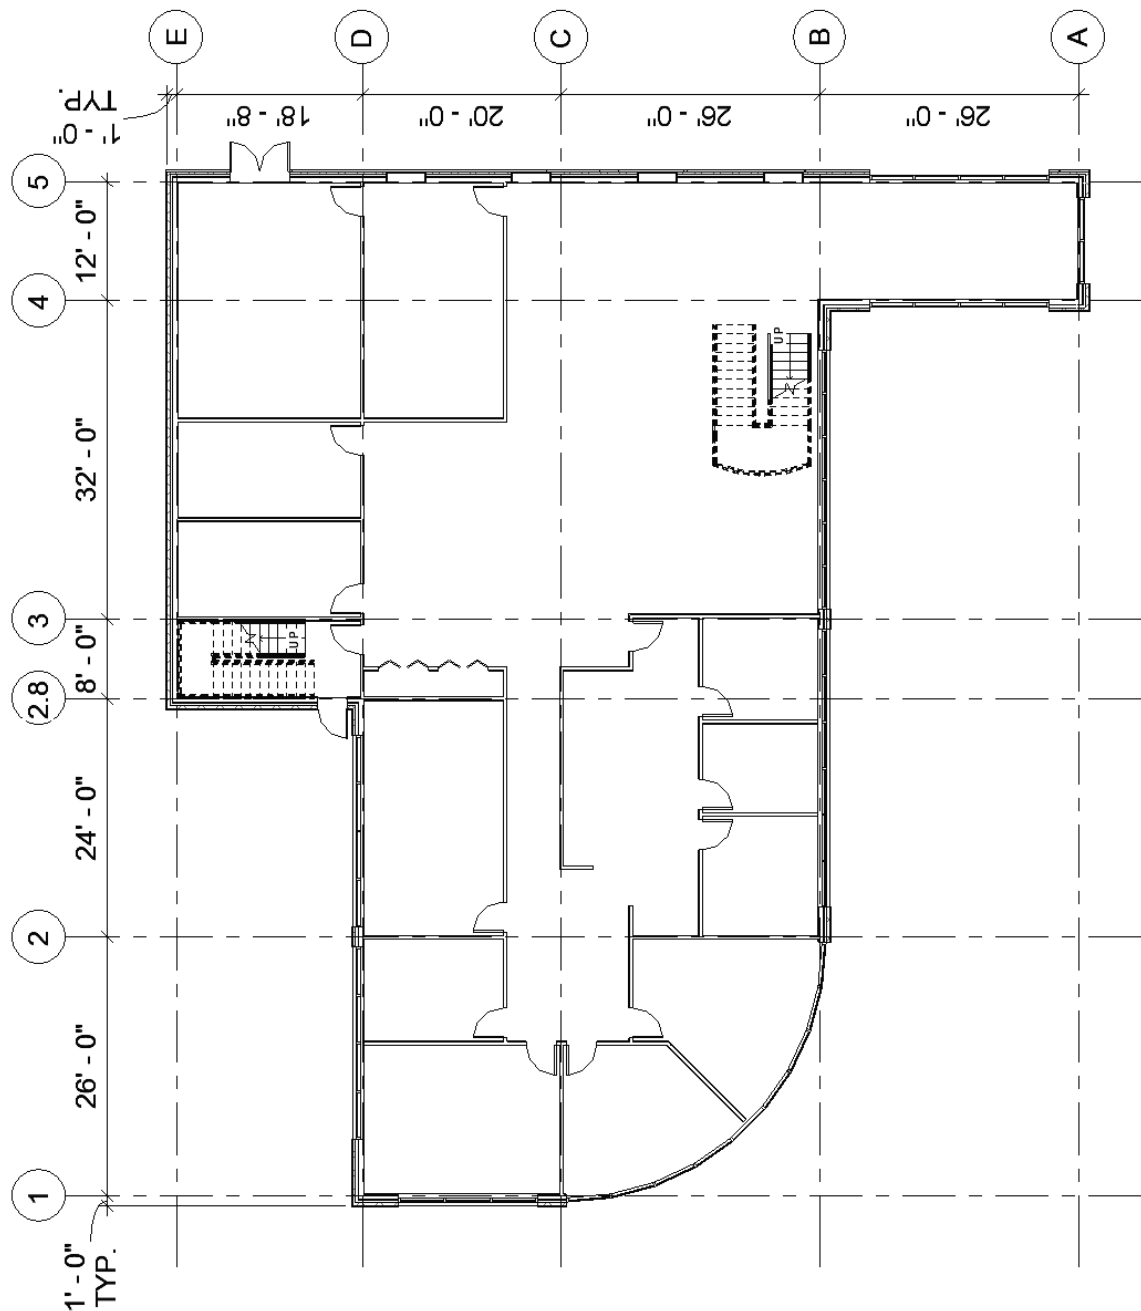

FIGURE 8-3.3
4. Layout the grid as shown in Figure 8-3.3.
- b. Use this as an opportunity to double-check the overall dimensions of your building. Many of the grids can be laid out based on the 1'-0" distance from the exterior face of the exterior wall rule we have established. Additionally, Figure 8-3.3 shows dimensions between each grid; this can be used to locate the remaining grids and verify dimensions.
FYI: In the image below (Figure 8-3.3), you can see two dimensions with the word “**TYP.**” below them. First off, this is an abbreviation which should only be used if it has been defined in an abbreviation list somewhere in the set of documents. This abbreviation means “TYPICAL,” and when used like this, lets the contractor know that any grid line near an exterior wall should be this same dimension (1'-0" in this case).